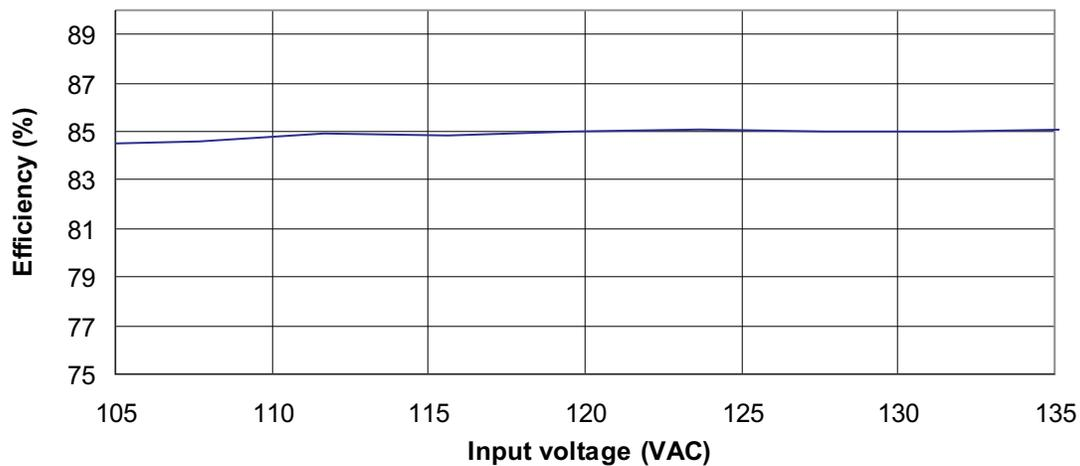
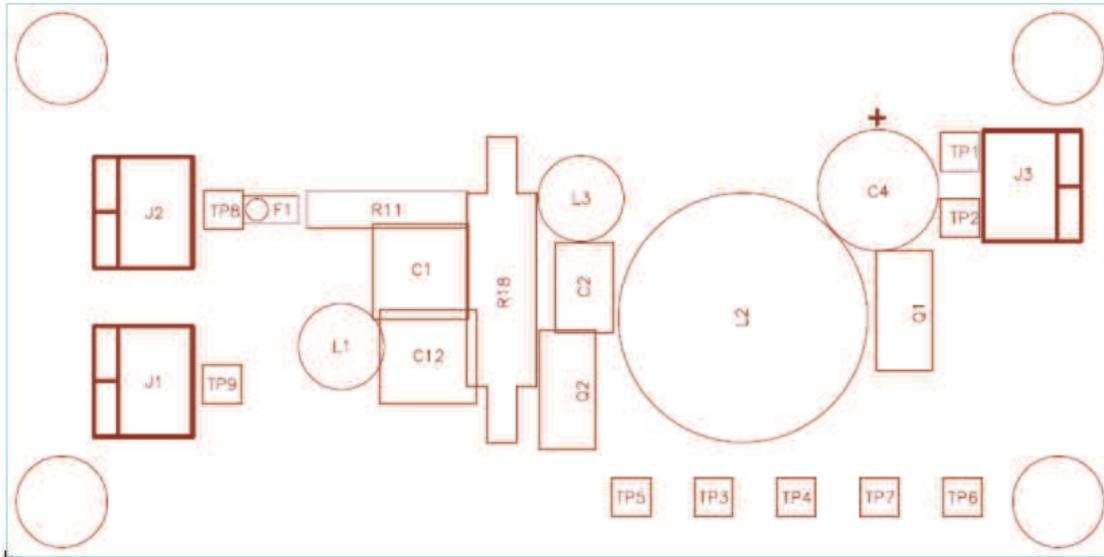

Figure 3. Efficiency
**Figure 28. LED Current vs. Triac Conduction Time (Ch1- LED current Ch2- bulk voltage Ch3- U2-1 voltage waveform)**
Figure 3 through Figure 28 present typical performance curves for TPS92001EVM-628.
2. Figure 6 through Figure 28 input set to 120 VAC nominal.